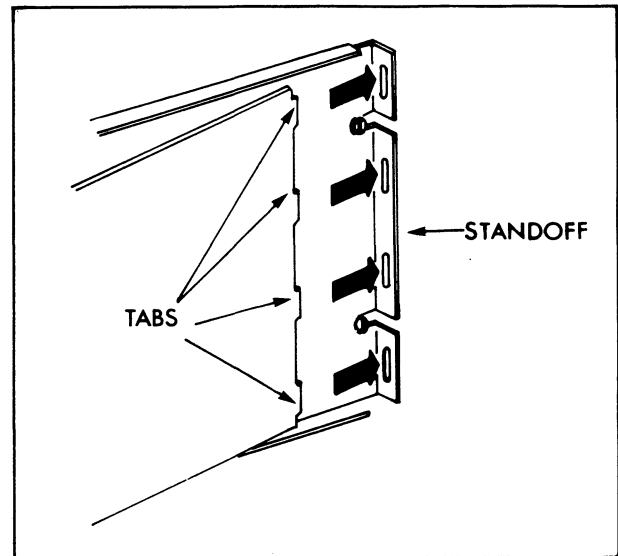

Figure 2-4. Mounting the NTCF on the Field Termination Panel
1. Insert the tabs of the circuit board into the proper slots of the termination panel standoff as shown in Figure 2-4. and slide the circuit board into position.